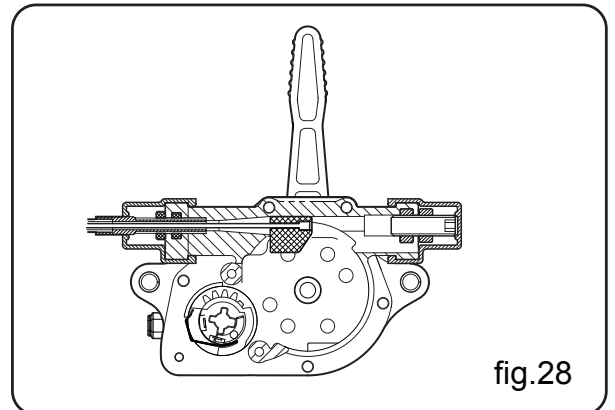

fig.28
- In case of removing the throttle wire (5), move to idling position of the lever (2) ready. (fig.28)
- Remove the end cap (11) and unscrew a bolt (10) and 2 pcs nuts (8).